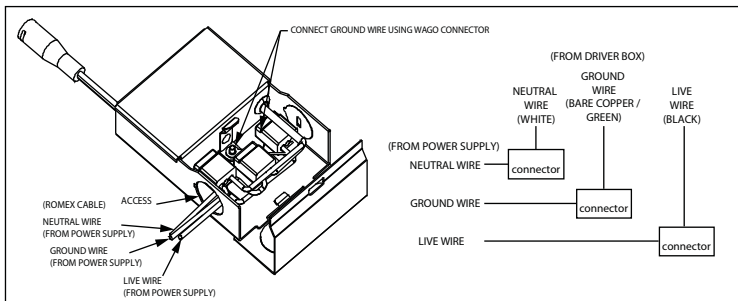

Figure 2 / Figura 2 / Schéma 2
- Connect black wire to live wire, white wire to neutral wire, and green wire with ground (as shown) and secure using wago connector. Close the cover of the box. (Figure 2)